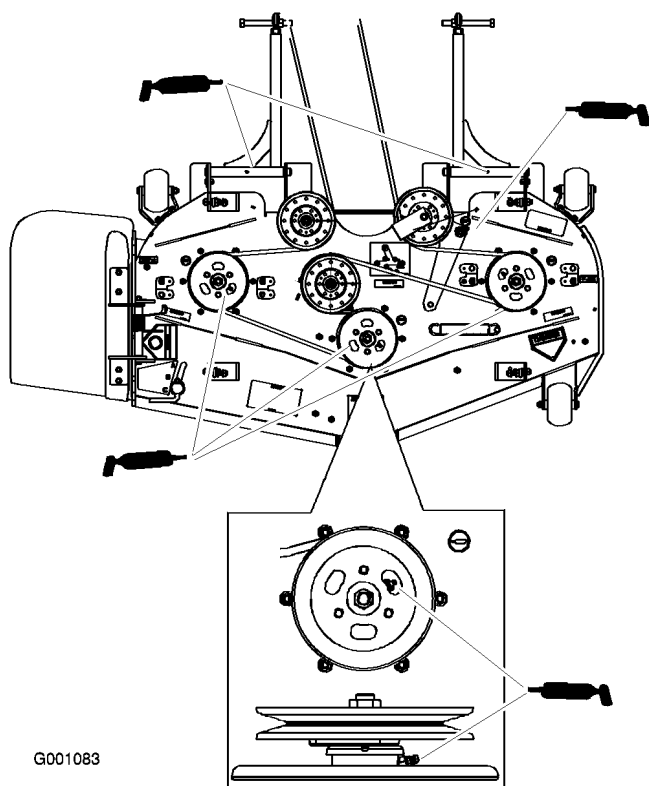

Figure 37
4. Grease the three spindle bearings under the pulleys until grease comes out the lower seals (Figure 37).
5. Grease the idler arm on the mower deck (Figure 37).
6. Grease the fittings on the push arms (Figure 37).